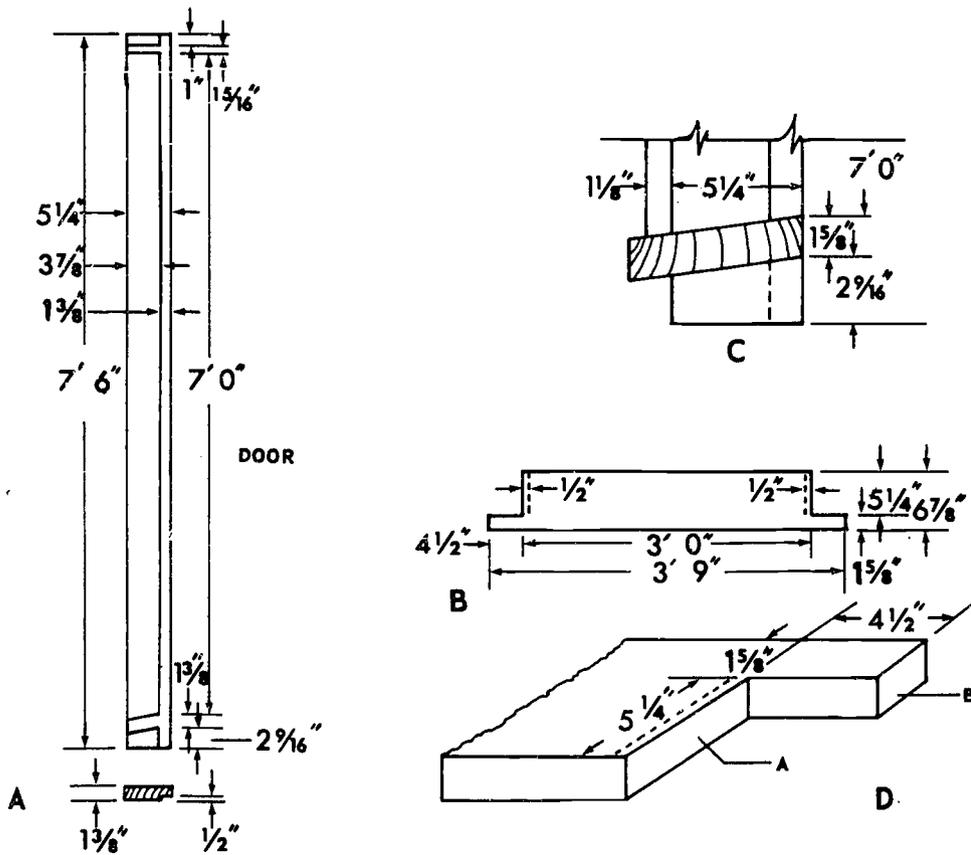
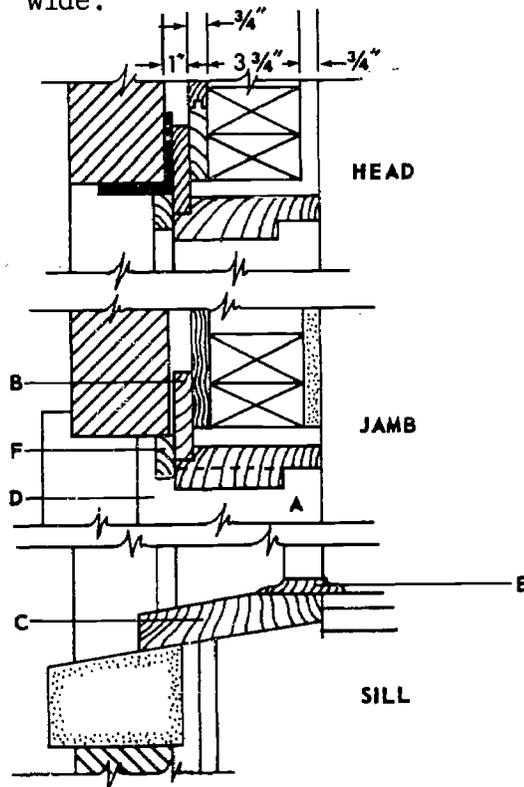

FIGURE 2
FIGURE 4
- (1) Length of side jambs are equal to height of door plus dados for head and sill and plus extensions beyond dados, or 7' 0" + 13/16" + 1 5/8" + 1" + 2 9/16" = 7' 6" as shown in "A", Figure 2.
- (2) Width of side jamb is equal to thickness of studs in the wall plus thickness of outside sheathing and inside lathing and plastering as shown in "C", Figure 2. Total, 5 1/4".
- (3) Rabbet for door is 1 3/8" wide and 1/2" in depth when jambs are made 1 3/8" in thickness. If jambs are made of 13/16" material, they are not rabbeted, but a stop is used as in (h),
- (4) Length of head jamb will be the width of the door plus twice the depth of the dado in the jamb into which the head jamb enters, or $3' 0'' + (2 \times 1/2'') = 3' 1''$. Width is the same as for the side jambs $5 1/4''$.
- (5) Length of the sill will be equal to the width of the door plus twice the width of the outside casing, or $3' 0'' + 4 1/2'' = 3' 9''$. Width of the sill is $5 1/4''$ plus the thickness of the outside casing plus about $1/2''$ which projects beyond the face of the outside casing, or about $7''$ as in Figure 2, "C".
- (6) The sill will be relished at each end as shown in Figure 2, "B". A view of the cut on the end of the sill is shown in "D". The portion (a), which is $5 1/4''$ long enters the side jamb and the portion (b) extends under the outside casing on each side of the door opening. In some cases the jambs are dadoed into the sill.
- (7) Length of side casing will be slightly longer than the height of the door, or about $7' 2''$. Side casings will be cut in between the head casing and the sill. Width of the casings will be $4 1/2''$ and the thickness will be $1 1/8''$.
- (8) Length of the head casing will be equal to the width of the door plus twice the width of the side casings, or $3' 9''$.
- (9) Length of the drip mold will be the same, $3' 9''$.
An outside frame in a brick veneered wall is shown in Figure 4. The frame has side jambs (a), which are made about 6" longer than the height of the door. The width is equal to the thickness of the wooden wall, $5\ 1/4''$, plus the thickness of the strip (b), which is $3/4''$, thus making the width 6". The jambs are rabbeted for the door and also to take a
The sill (c) is equal in length to the masonry opening, and is let into the jambs as shown in Figure 2. It is also relished as shown in Figure 4 at (d).